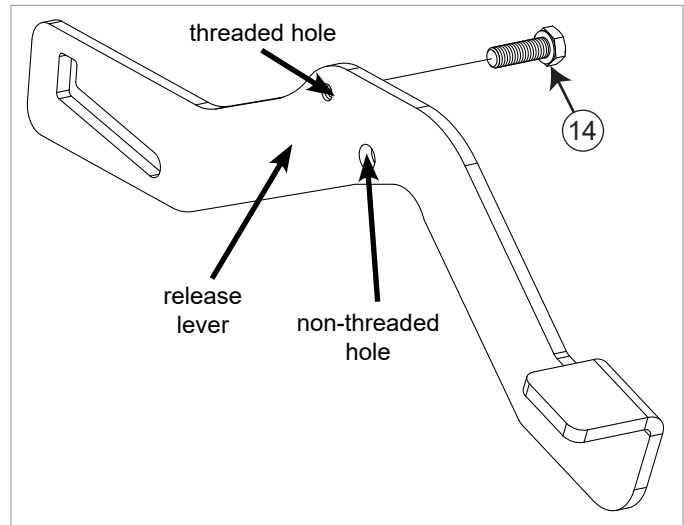

Fig. 11
11. Locate the release lever and the M8 x 30 hex screw and fully thread the screw into the threaded hole in the release lever (see Fig. 11).